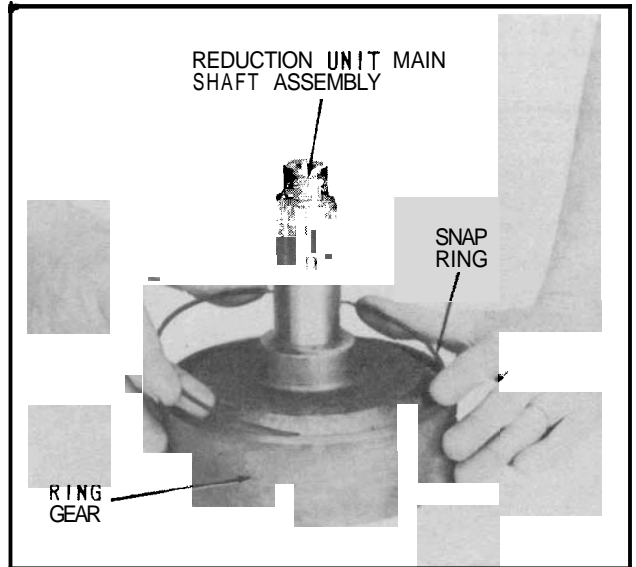

Fig. 22 Assembling Snap Ring
19. Assemble snap ring firmly into ring gear groove as shown in (Fig. 22).